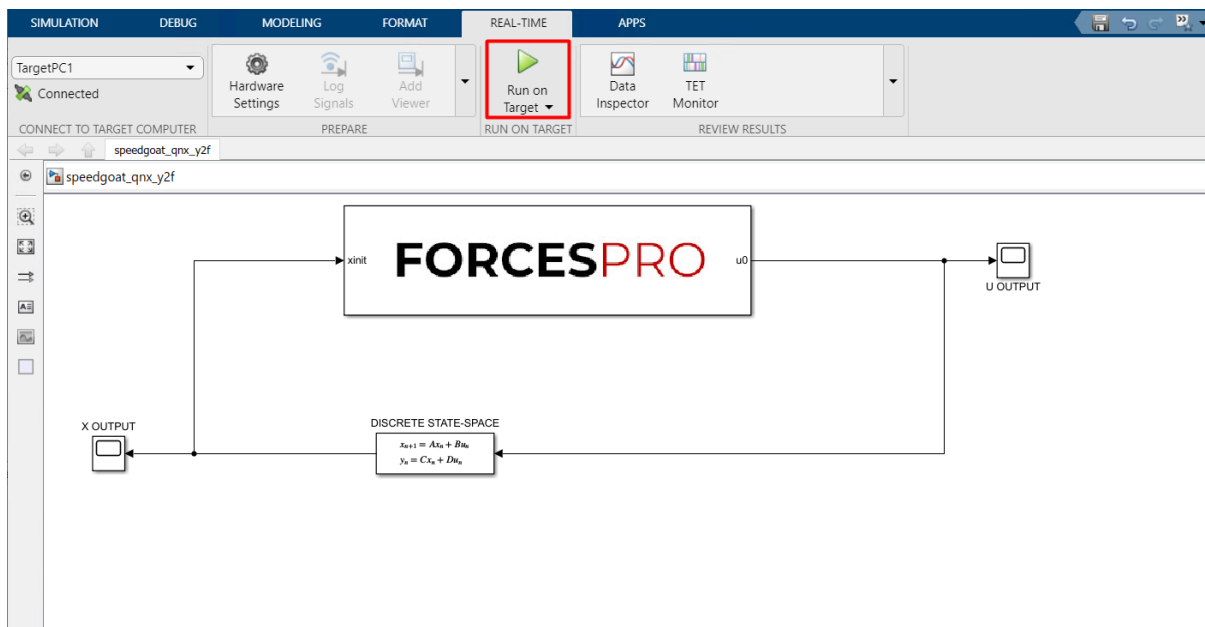

Figure 13.113: Compile the code of the Simulink model.
12. (Figure 13.113) Compile the code of the Simulink model. This will also automatically load the model to the connected Speedgoat platform.